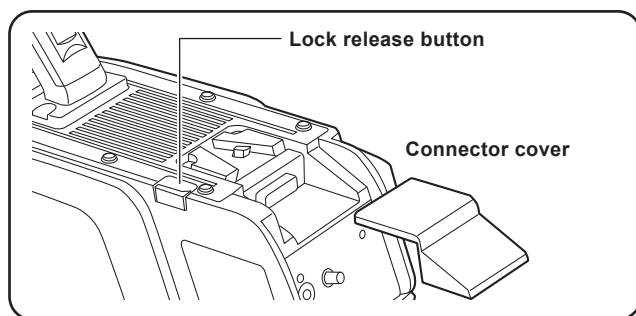

Fig. 1
- 2** Press the lock release button on the camera and remove the connector cover. (Fig. 1)